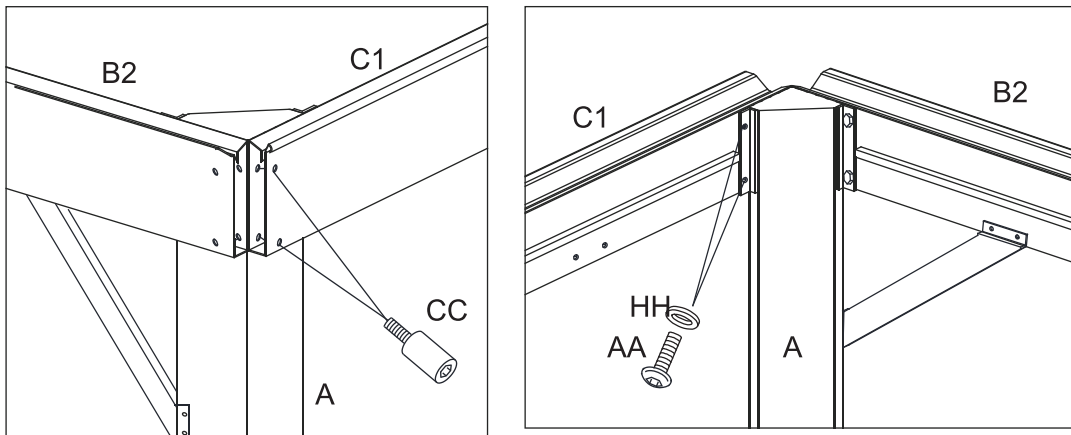
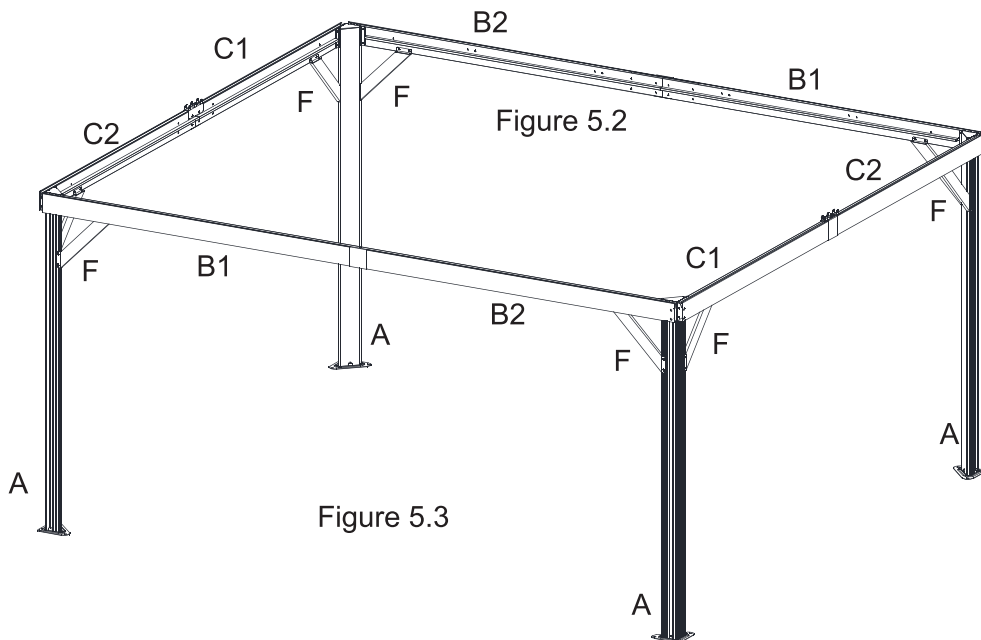

Figure 5.1
Figure 5.3
5.1. Attach Short Lintel (C1 and C2) to Corner Posts (A) first with Bolts (CC) then with Bolts (AA) and washer (HH) . Tighten all the Bolts. Repeat for opposite side. Tighten all Bolts. See Figure 5.1 and Figure 5.3.
5.3. Repeat for all Corner Posts and Lintels. Tighten All Bolts. See Figure 5.3.